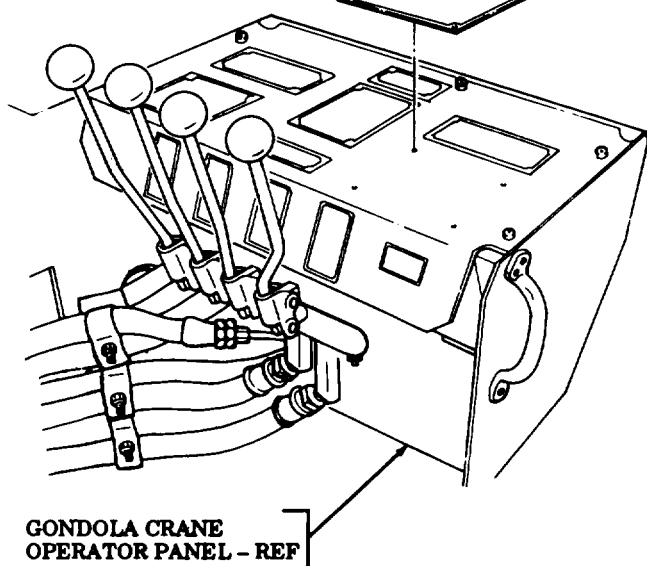

FIGURE 12
- (17) Remove four screws and operation data plate from gondola crane operator panel as shown in figure 12, Discard screws and operation data plate.
- (18) Install 12356929 operation data plate on gondola crane operator panel with four MS51861-22 screws as shown in figure 12.